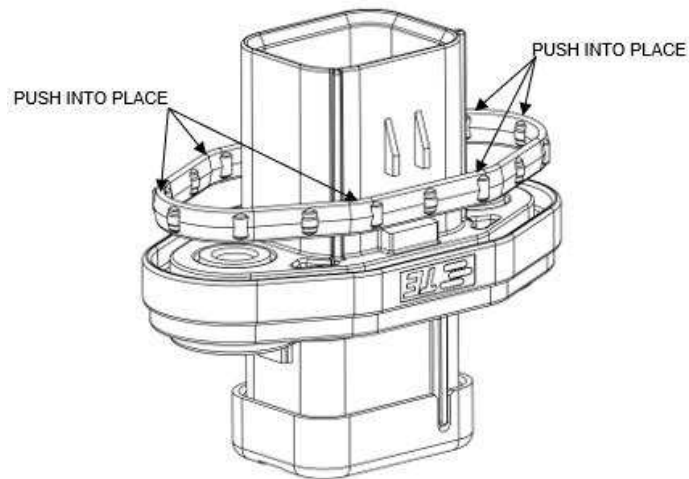

Figure 13.
- i. If the flange seal has shipped separately or been removed from its groove, simply align the seal with the seal groove of the header housing and push it into place with a clean finger until the seal completely bottoms in the groove along the entire seal track as seen in Figure 13.